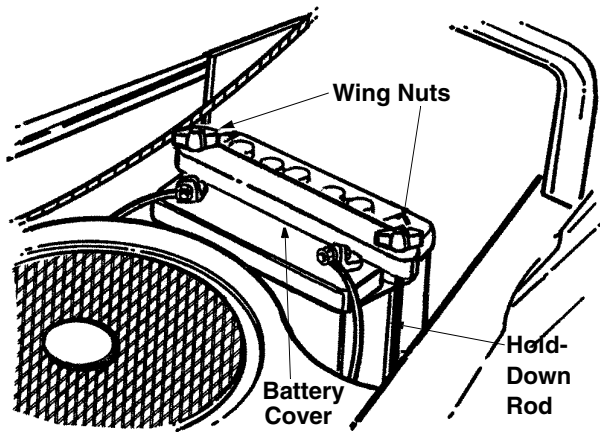

Figure 15
- Place the battery cover in position over the hold-down rods. Secure with wing nuts. See Figure 15.